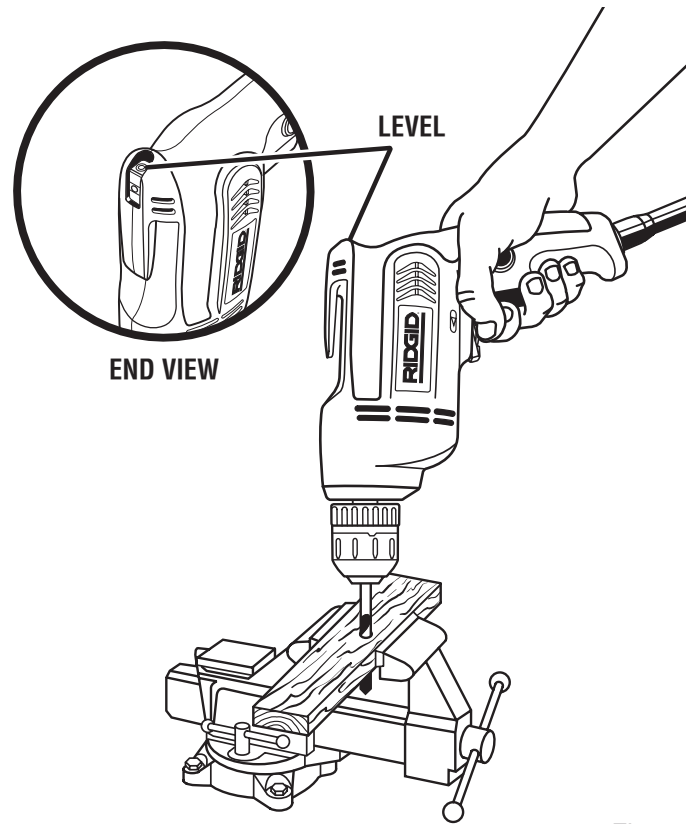

Fig. 8
See Figures 8 and 9.
- Move the drill bit into the workpiece applying only enough pressure to keep the bit cutting. Do not force your drill or apply side pressure to elongate a hole. Let your drill and bit do the work. See Figures 8 and 9.